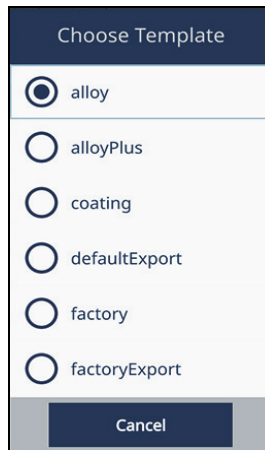

Figure 2-35 Choose Template dialog box
2. Select a template name option button (see Figure 2-35 on page 51).